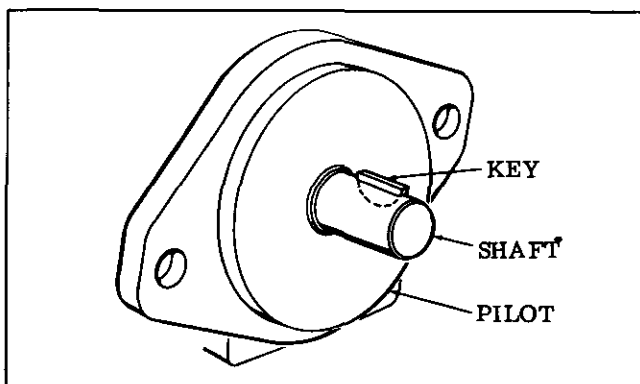

Figure 6
1. Direct Mounting - A pilot on the pump mounting flange (Figure 6) assures correct mounting and shaft alignment. Make sure the pilot is firmly seated in the accessory pad of the power source. Care should